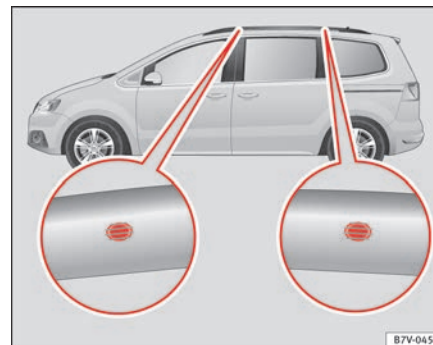

Fig. 101 Attachment points for the basic support and the roof carrier system.
The position holes are located on the inner side of the rail ⇒ fig. 101.
- The base support should only be fitted to the points indicated in the diagram ⇒ fig. 101.